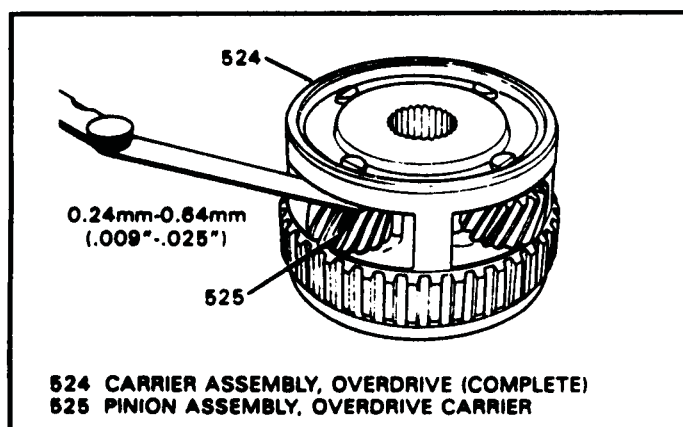

Figure 113
3. Measure the pinion end play in the overdrive carrier with a feeler gage as shown in Figure 113. End play should be .009" to .025".